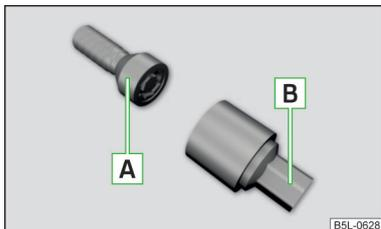

Fig. 136
The anti-theft wheel bolts protect the wheels from theft. These can only be loosened or tightened with the use of adapter **B** » Fig. 136.
- Insert adapter **B** » Fig. 136 with the toothed side all the way into the inner teeth in the head of the anti-theft wheel bolts **A**.